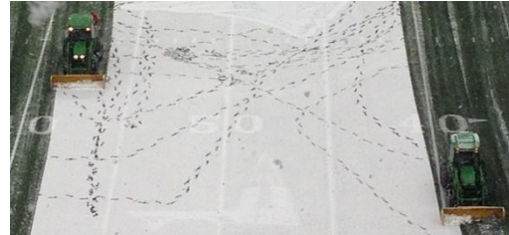

Figure 3
2. Remove snow by driving machine across the field perpendicular to the length of the field. Figure 3